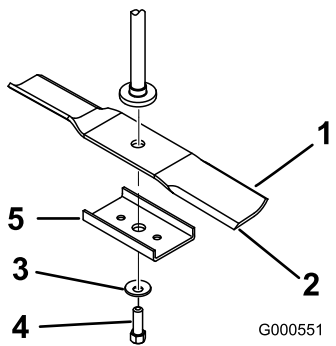
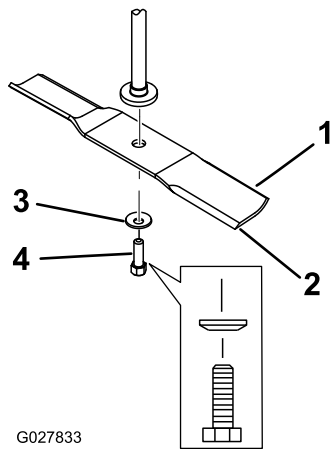

Figure 49
Figure 50
2. Remove the blade stiffener (32-inch decks only), blade bolt, the curved washer, and the blade from the spindle shaft (Figure 49 and Figure 50).
1. Install the blade onto the spindle shaft (Figure 50).
2. Install the blade stiffener (32-inch decks only), the curved washer (cupped side toward the blade), and the blade bolt (Figure 50).